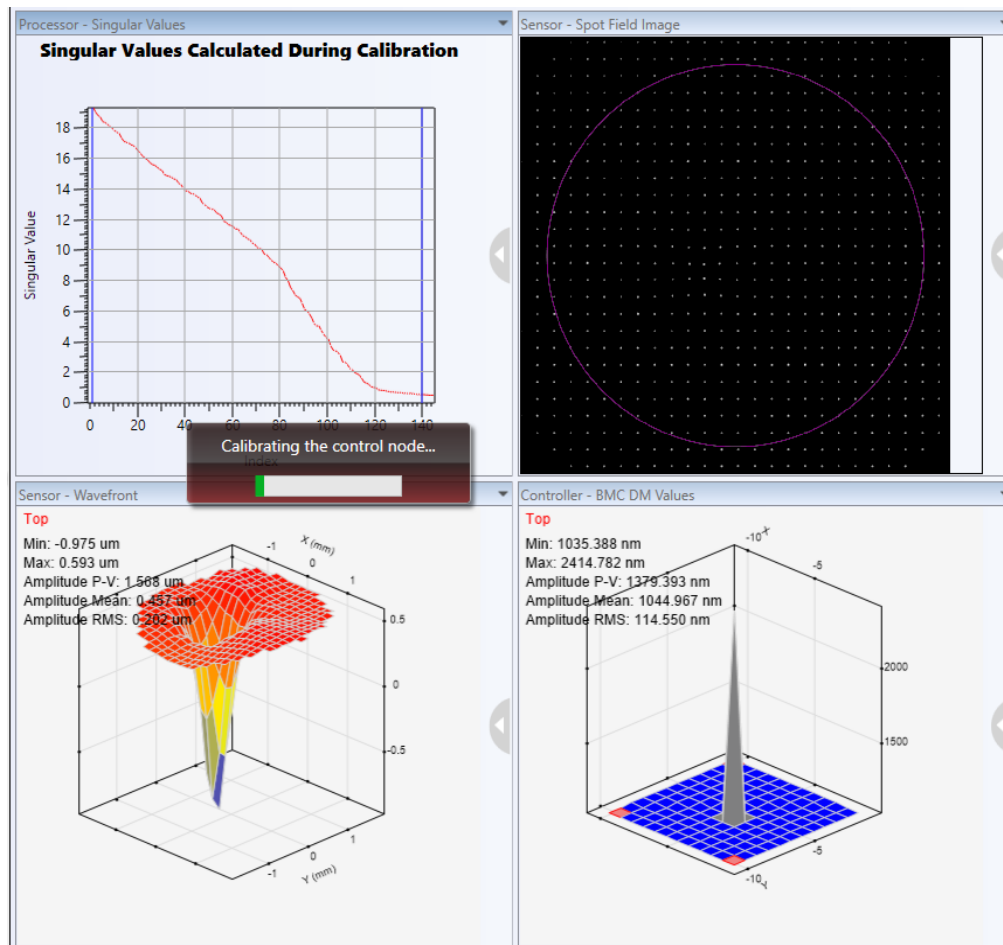

Figure 175 **AOKit calibration process**
- 2) After initiating the calibration, a spike should be seen on the DM surface, as displayed in Figure 175